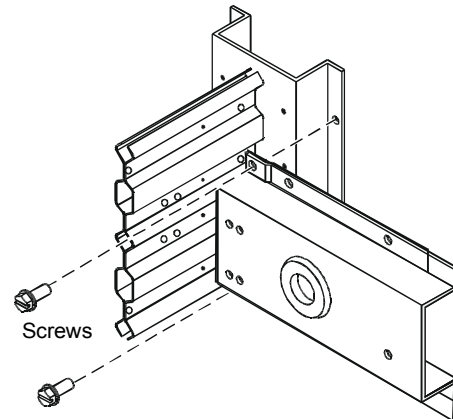

Figure 12: Installing Universal Mounting Bracket
2. Secure by using two No. 12-24 x 1/2 inch thread-forming, hex-head screws, as shown in Figure 12.